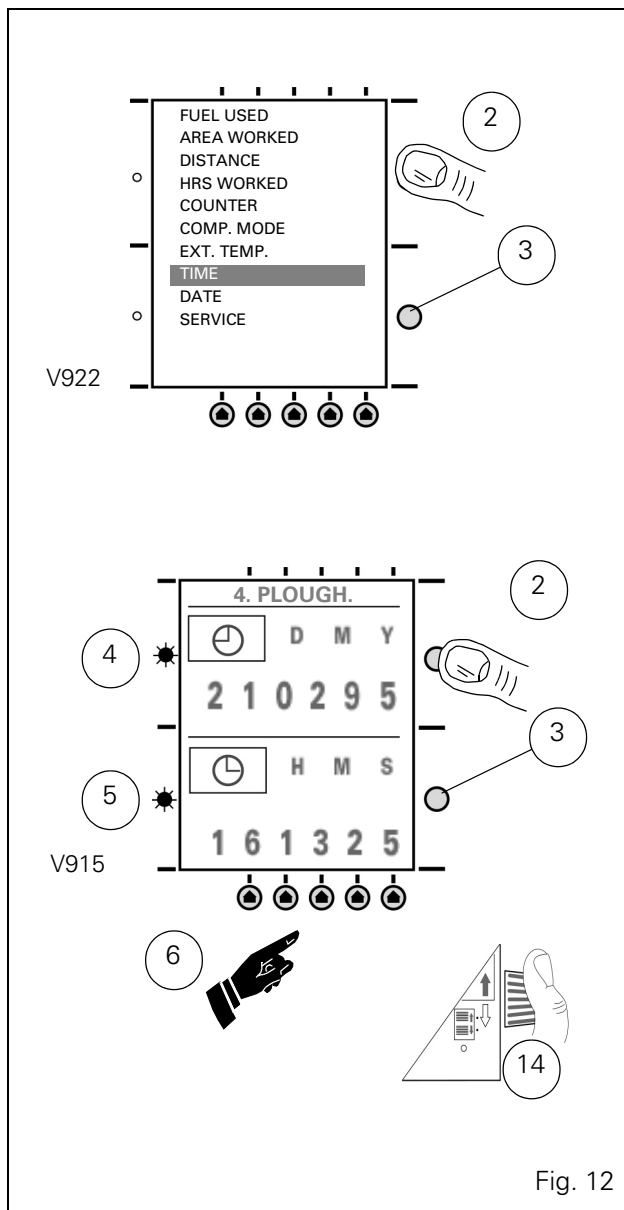
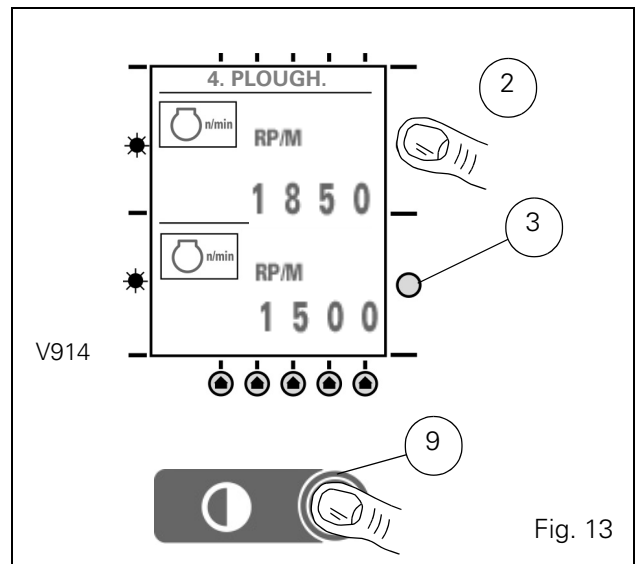

Fig. 12
Fig. 13
- Clock setting (hours, minutes, seconds) (Fig. 12):
- Press the key 2 or 3 to display the list of functions.
- Press on one of the keys ref. 6 corresponding to the figures to modify, then turn the knob 14 to modify these digits one by one.
- Proceed in the same way to update the Date, Month and Year parameters and to store Cost/L. and Cost/Area. Units. Screen contrast (Fig. 13).
(Fig. 13)